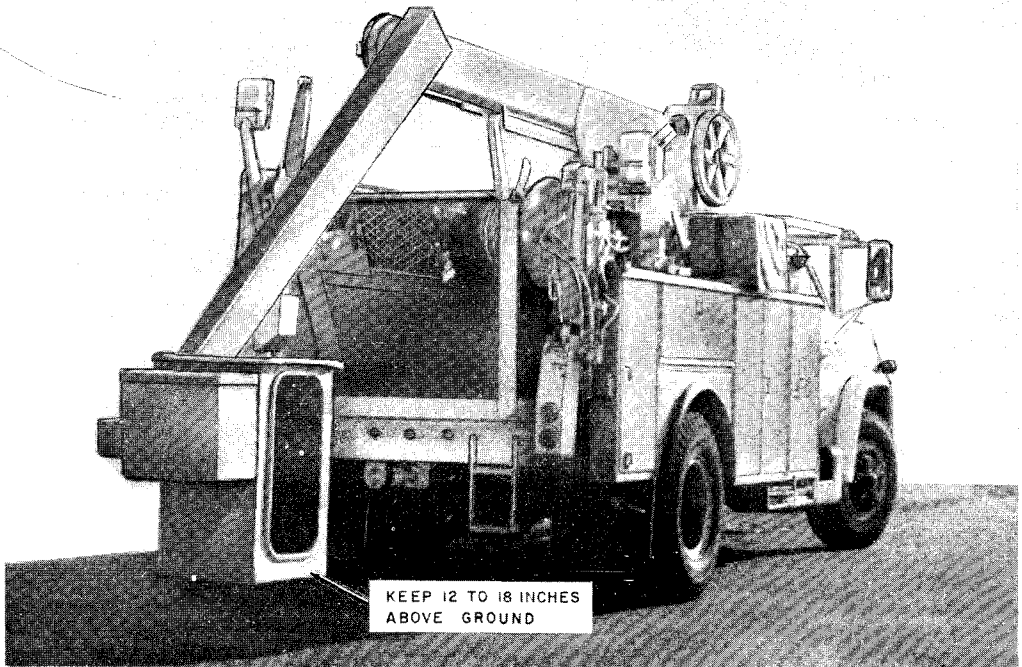

Fig. 9—Platform Position for Loading, Entering, and Leaving
3.20 Enter and leave the platform only when it is in the position shown in Fig. 9. Use the control head located on the turret to position the platform for entry and to place the equipment in the stowed position. To prevent damage to the leveling system from excessive down thrust or movement of the vehicle with the platform on the ground, *the platform should be maintained 12 to 18 inches above ground.*